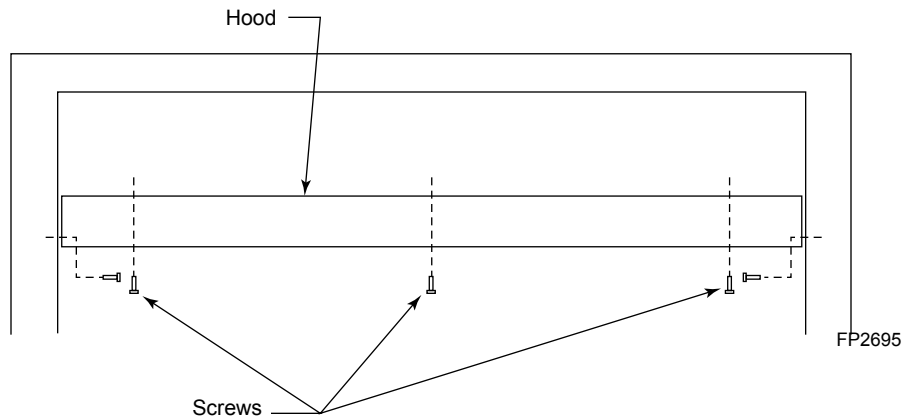

Figure 11 - Canopy Installation
A canopy is furnished with each firebox and **MUST** be installed for safe operation. *Figure 11*
1. Remove the three (3) screws from the top front frame assembly. Also remove the two (2) screws on the side frames. *Figure 11*